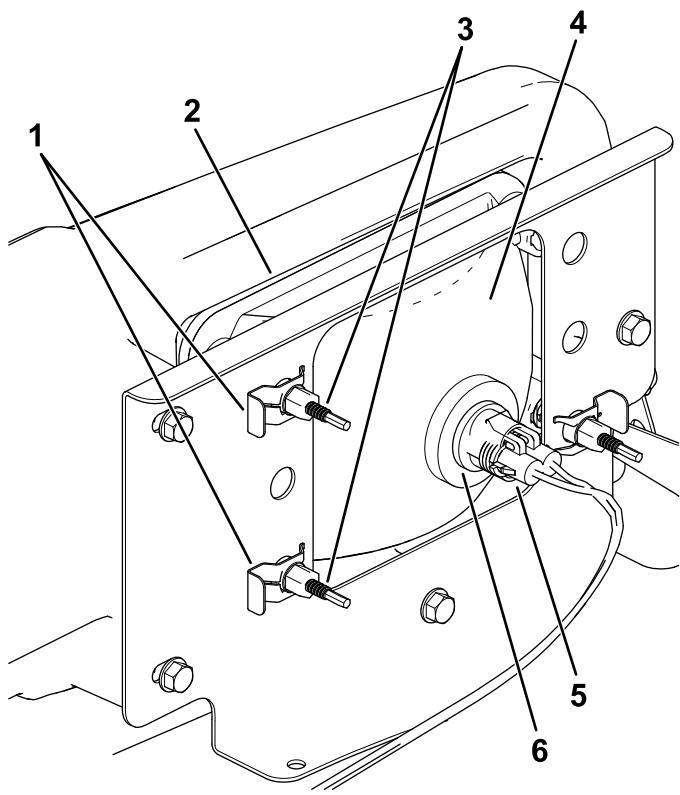

Figure 39
3. Disconnect the electrical connector for the harness from the connector of the lamp assembly (Figure 39).
4. Remove the speed clips that secure the headlight to the headlight bracket (Figure 39).
5. Remove the headlight assembly by moving it forward through the opening in the front bumper (Figure 39).
6. Install the new headlight through the opening in the bumper (Figure 39).
8. Connect the electrical connector for the harness to the connector of the lamp assembly (Figure 39).
5. At the back of the headlight assembly, rotate adjustment screws (Figure 39) to pivot the headlight assembly and align the position of the cast beam.